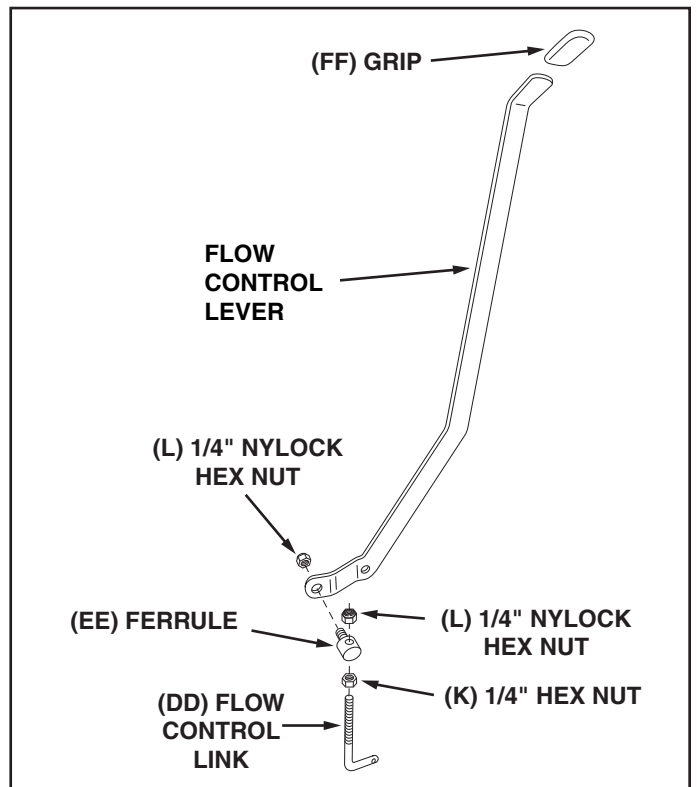

FIGURE 7
16. Screw a 1/4" hex nut all the way onto the flow control link. Assemble the ferrule onto the link and then start a 1/4" nylock hex nut one or two turns onto the link. See figure 7.
17. Assemble the ferrule into the hole at the end of the flow control lever using a 1/4" nylock hex nut. **Tighten** the nut, leaving it loose enough that the ferrule can pivot. See figure 7.
18. Assemble the grip onto the end of the flow control lever. See figure 7.